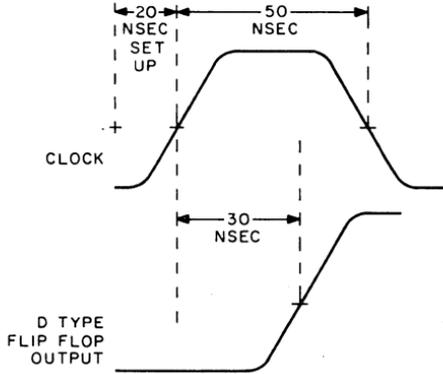

Figure 19. D Type Flip-Flop Timing
**Flip-Flop Propagation Delays:** D type flip-flops trigger on the leading edge of a positive clock pulse; the propagation delay is measured from the threshold point of this edge. The set-up time of the D flop is also measured from this threshold point. Data on the D input must be settled at least 20 nanoseconds prior to the clock transition. The advantage of the D flip-flop, however, is that the leading edge triggering allows the flip-flop AND gates to propagate while the clock pulse is still high. Figure 19 illustrates this situation.